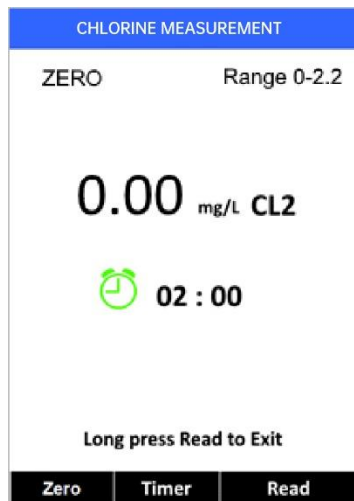

Figure 9. Chlorine measurement screen
1. Click **Measure** button (labeled with <) to launch the measurement selection menu. Click the < key until **Chlorine** entry is highlighted. Press **OK** to select the chlorine measurement screen (Figure 9).